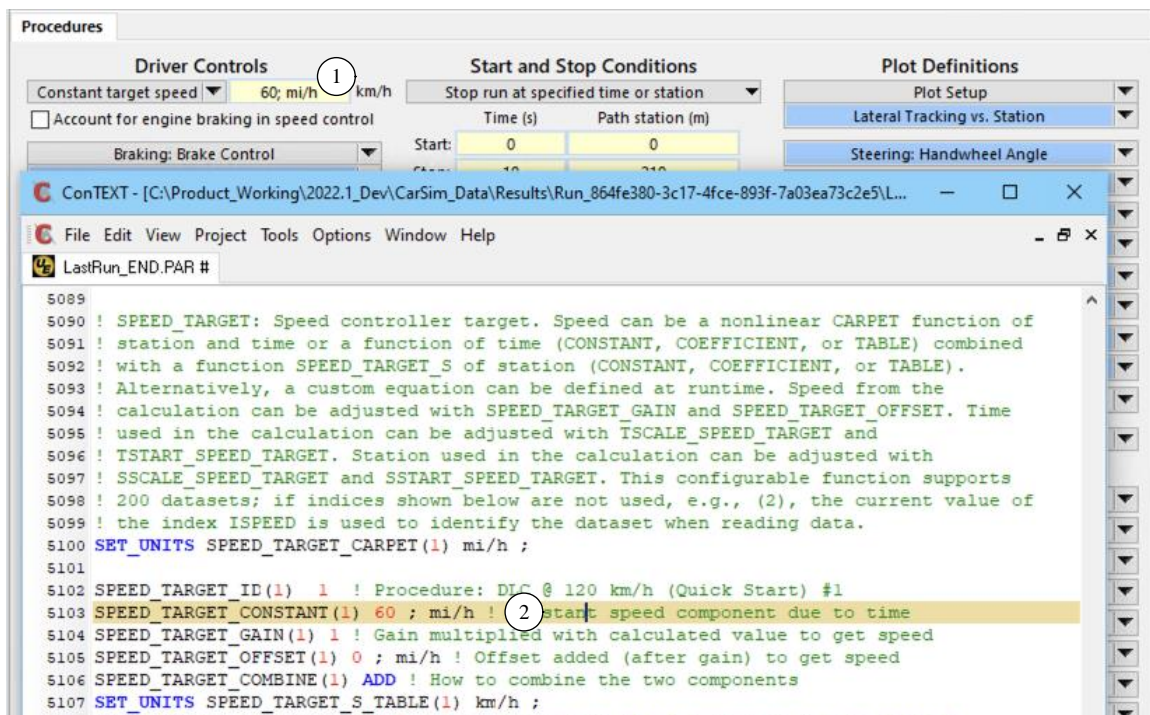

Figure 5. Set units and value using a semi-colon separator in a yellow field.
1. The keyword `SPEED_TARGET_CONSTANT` (1) identifies a part of the model.
Suppose you want to specify the constant target speed as 60 mi/h. This is done simply by mimicking the syntax shown in the Echo file. Provide the value, then a semicolon, then the units (1) (Figure 5). The figure also shows the Echo file for the run made with the new settings and confirms that the speed target was set with units of mi/h (2).